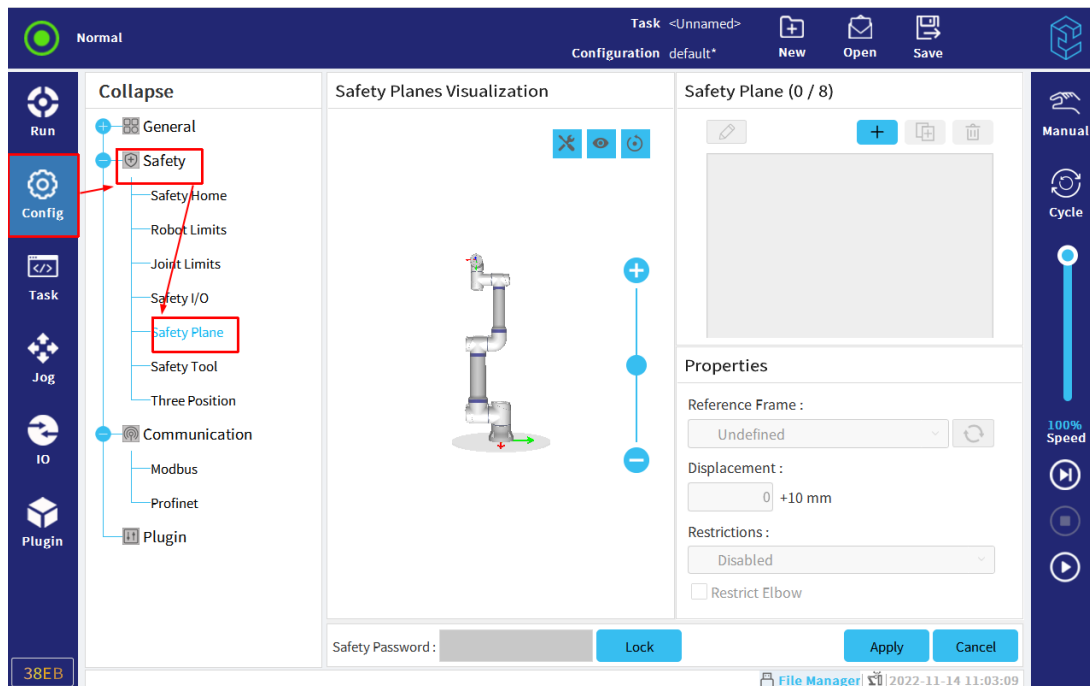

Figure 3-68 : Safety planes
1. Select "Config > Safety > Safety Planes" and click  , as shown in **Figure 3-68**